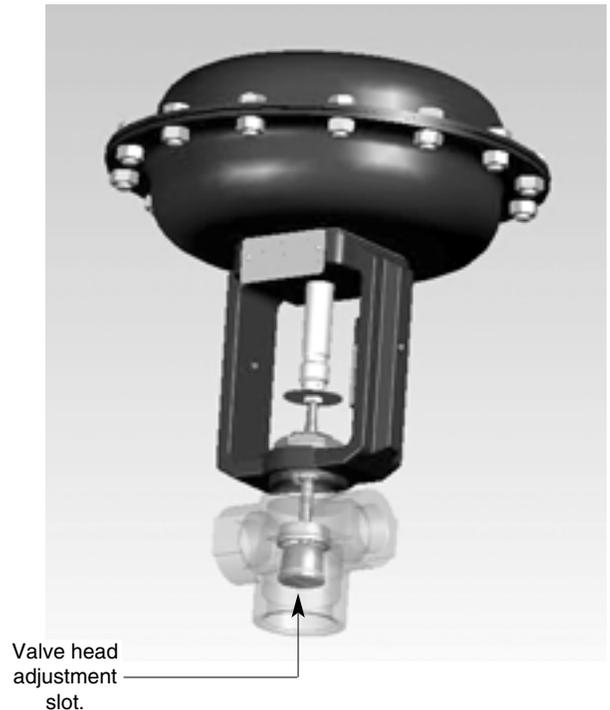

Figure 3
- Apply the control signal pressure to commence lifting the actuator spindle. Insert a large flat headed screwdriver in the underside of the body and engage it in the slot in the valve head. See Figure 3.
2. Apply the control signal that will be used to just close the valve. Insert a large flat head screwdriver in the underside of the body and engage it in the slot in the valve head. See Figure 3. Rotate the valve head until its seating face just touches the seating face on the valve seat.
5. Insert a large, flat headed screwdriver in the underside of the body and engage it in the slot in the valve head (Figure 3). Unscrew the valve head and stem from the actuator spindle until it is fully disengaged.